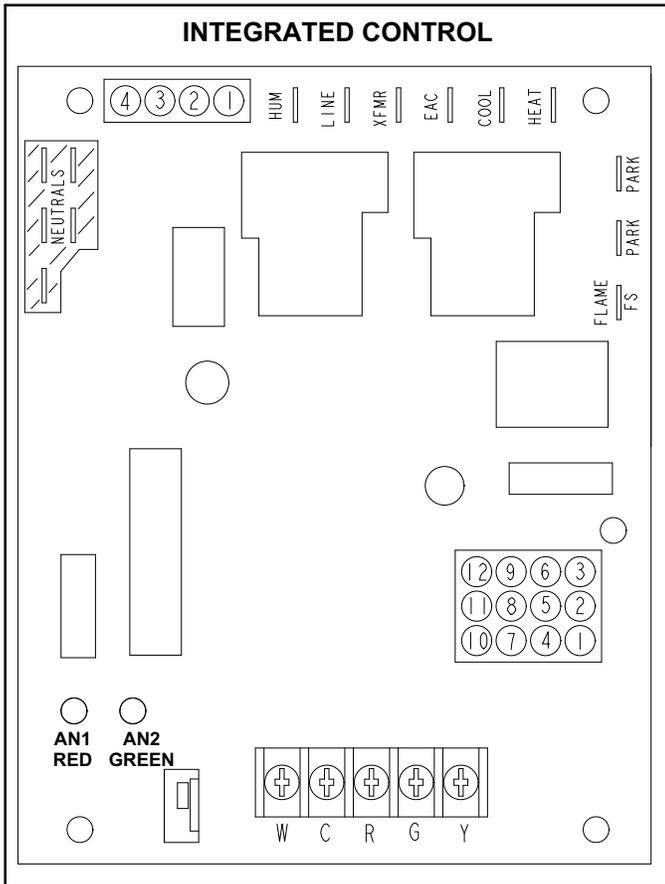

FIGURE 3
The hot surface ignition control system consisting of an integrated control (figure 3 with control terminal designations in tables 1, 2 and 3), sensor and ignitor (figure 9). The integrated control and ignitor work in combination to ensure furnace ignition and ignitor durability. The integrated control, controls all major furnace operations. The integrated control also features two LED lights (AN1 red and AN2 green) for troubleshooting and two accessory terminals rated at (1) one amp. The integrated control also features a (3) amp fuse for overcurrent protection. See table 4 for troubleshooting diagnostic codes. The 120 volt ignitor is made from a high strength, mini nitride material that provides long life and trouble free maintenance. The integrated control continuously monitors line voltage and maintains the ignitor power at a consistent level to provide proper lighting and maximum ignitor life.